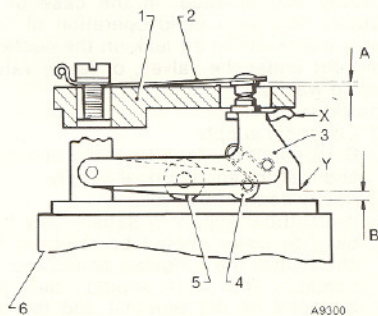

Fig 13. The rocker finger settings on modified rocker assemblies.
- 28 Check the lift of the contact blade tip above the top of the pedestal (A) (Fig. 13) with a feeler gauge, bending the stop finger 'X' beneath the pedestal, if necessary, to obtain a lift of $0.9 \text{ mm} \pm 0.13 \text{ mm}$ ($0.035 \pm 0.005 \text{ in}$).
- 29 Check the gap between rocker finger and coil housing (B) (Fig. 13) with a feeler gauge, bending the stop-finger 'Y', if necessary, to obtain a gap of $2.3 \text{ mm} \pm 0.13 \text{ mm}$ ($0.090 \pm 0.005 \text{ in}$).